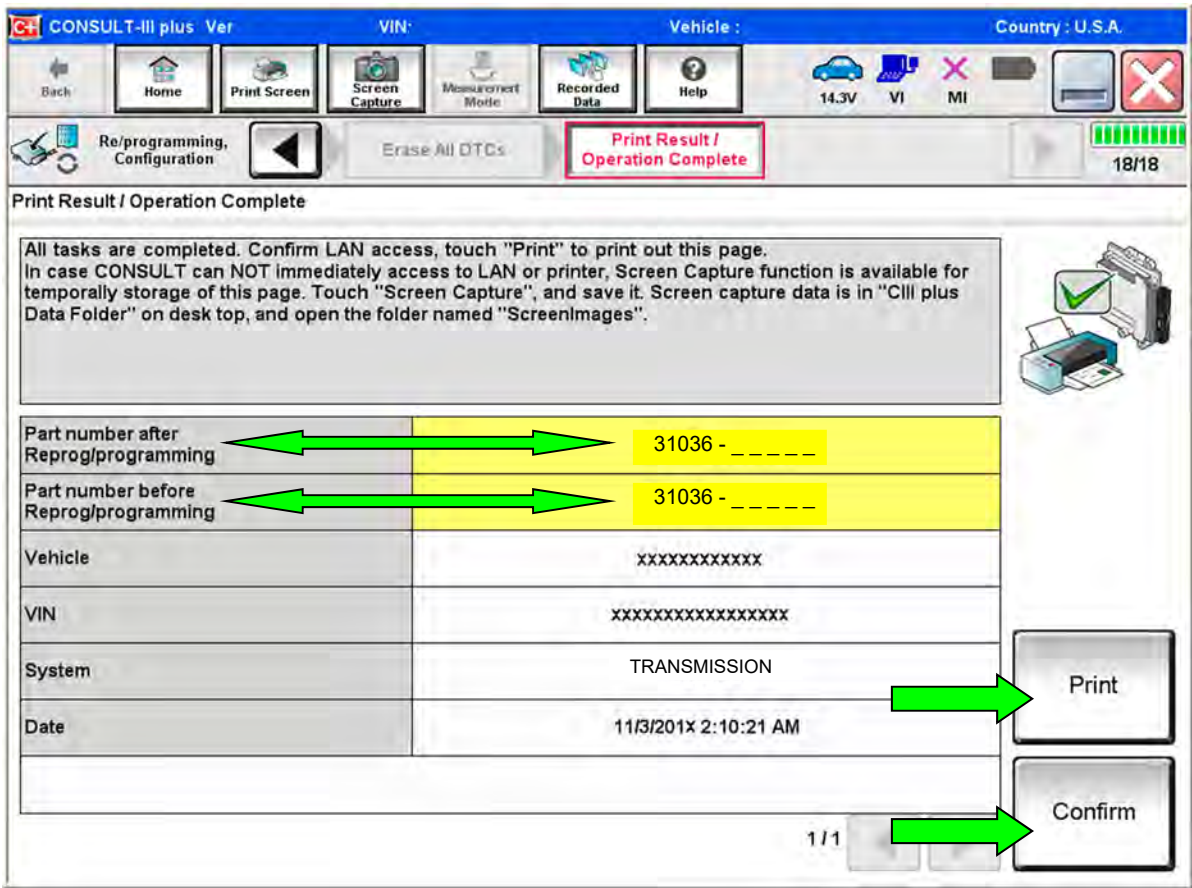

Figure 184
- When the entire reprogramming process is complete, the screen in Figure 184 will display.
152. Print a copy of this screen (Figure 184) and attach it to the repair order for warranty documentation.